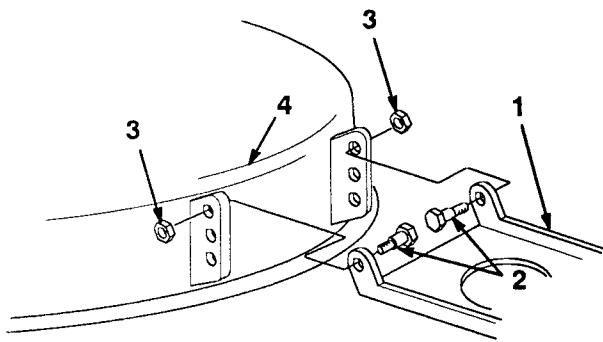

Figure 51
- If the 1/4" to 5/8" (6.350 mm to 15.875 mm) front slope cannot be achieved by rotating the slope adjusting nut, move the mower pivot mount at the mower (Fig. 51).
- Remove the shoulder bolts and lock nuts from the mower (Fig. 51).
- Lower the mower pivot one hole and install the shoulder bolts and lock nuts (Fig. 51).